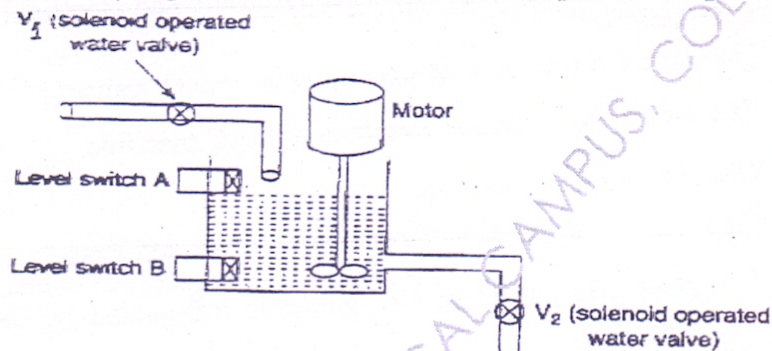

Figure 1
- (b) A Process tank shown in Figure 1 is sequenced to mix liquid fertilizer (12) according to following sequence of operation.